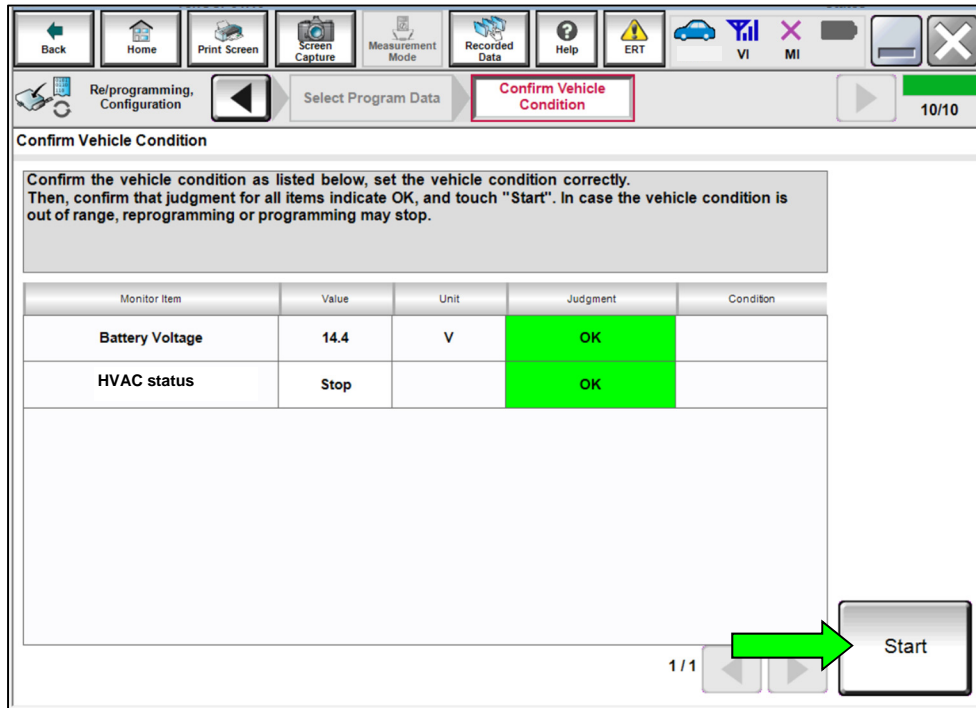

Figure 15
- If any of the items shown in Figure 15 display a status of **NG**, verify the battery maintainer/smart charger is turned ON and is securely connected to the 12V battery, and ensure the vehicle is NOT in Ready mode.